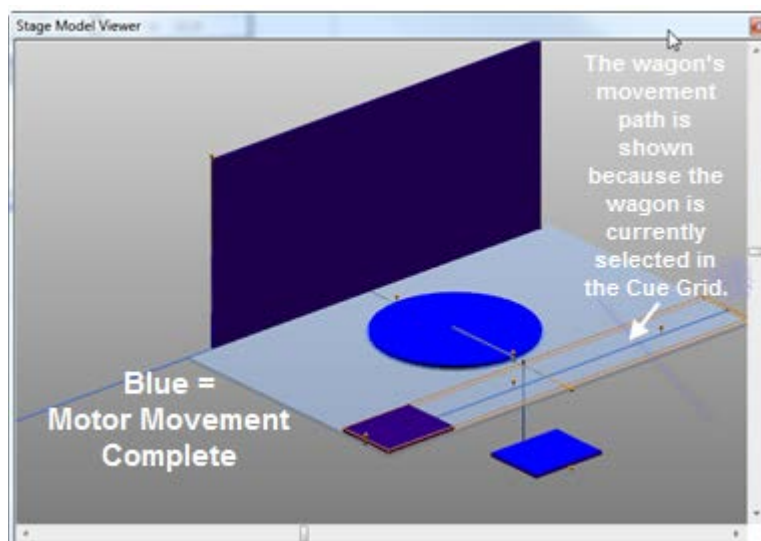

Figure 256
- The motor(s) that have completed their movements in the Cue change to blue inside the **Stage Model Viewer** (Figure 256).